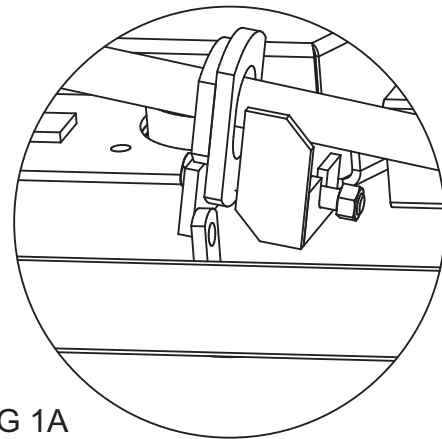

FIG 1A
- F. Remove spring stop from caster rod and turn it around (front to back) and slide it back onto the caster rod (refer to Fig. 1A).
- H. Install the cup retainer (found in bolt bag) next to the spring stop as shown in Fig. 1A. Note: there is a left-hand and right hand cup retainer. Make certain to use each retainer on the proper side of the deck.
- L. Tighten 3" threaded hex bolt that fastens spring stop to the deck. Use 3/8" whizlock nut on end of 3" threaded hex bolt to secure the cup retainer to the spring stop as shown in Fig. 1A.